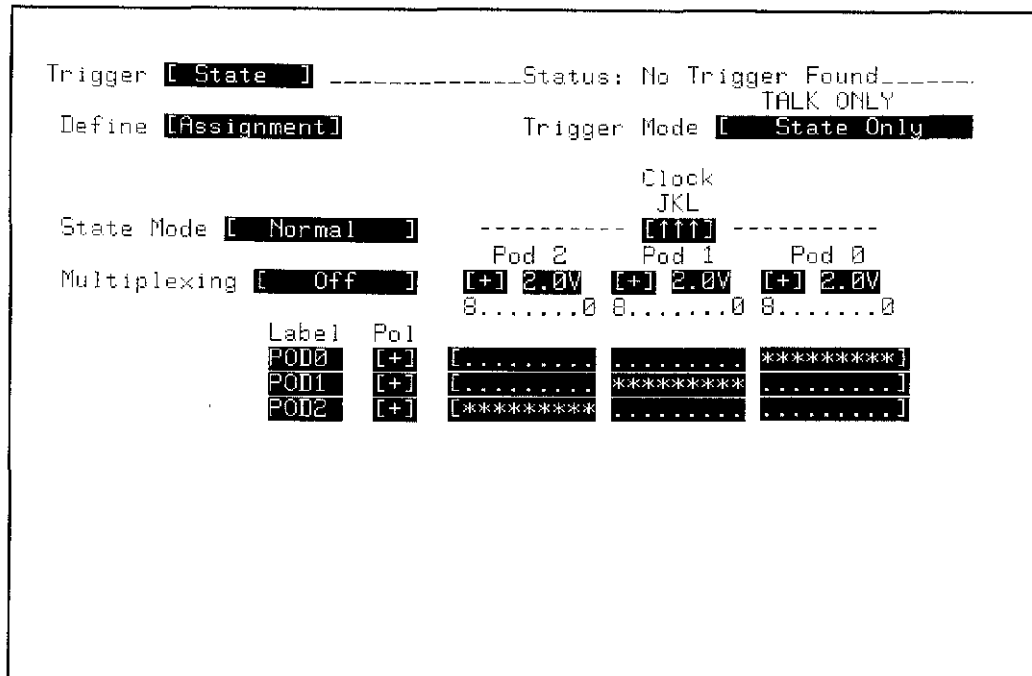

Figure 3-25. TRIGGER State / Define [Assignment] Menu
4. Configure the TRIGGER State / Define [Assignment] menu as shown in figure 3-25.